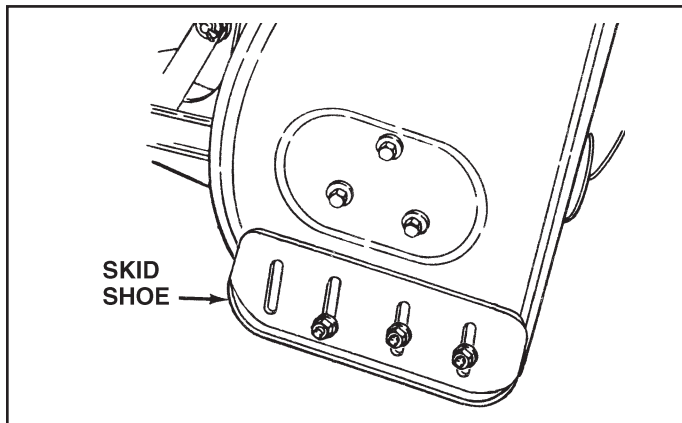

FIGURE 64
(Refer to figures 64 and 65 on page 29.)
- Raise the snow thrower off the ground and place a block under each end of the scraper plate. Loosen the six hex nuts securing the skid shoes to the housing. Adjust the skid shoes up or down and retighten the nuts securely. Adjust both skid shoes to the same height to keep the housing and the scraper plate level. See figure 64.